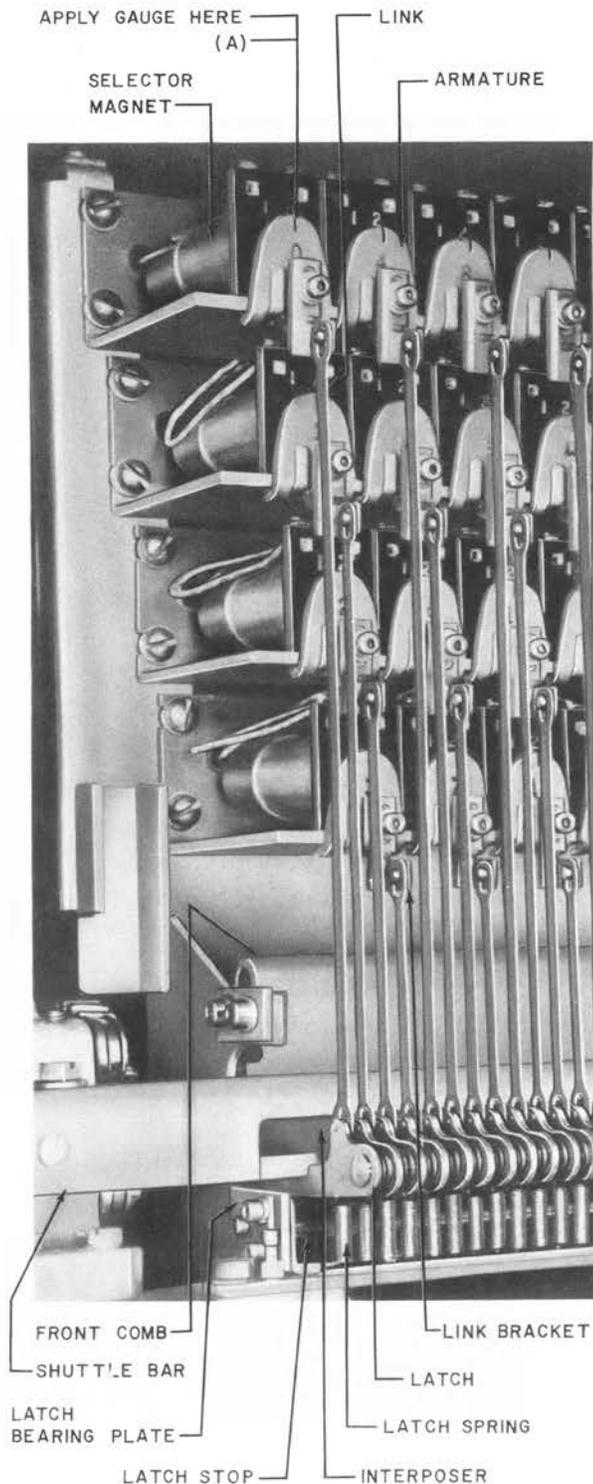

Fig. 46—Selector—Partial View
(1) Set the eccentric cam shaft dial between 180 and 270 degrees.
(2) Apply the 79C gauge push finger to the tip edge of the armature at the center as shown in Fig. 46, (A).